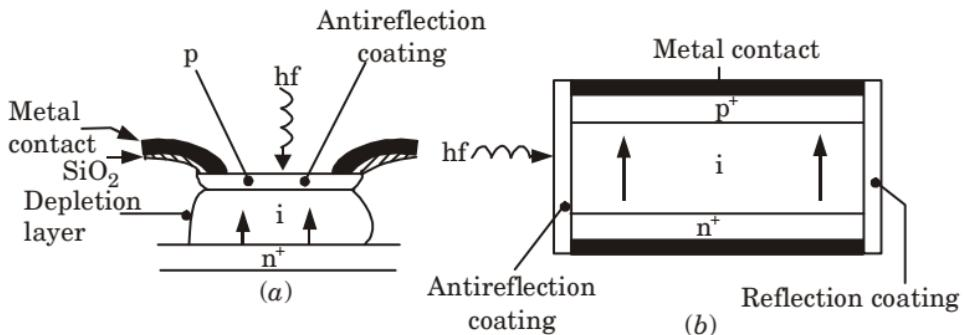

Fig. 4. (a) Structure of a front illuminated silicon *p-i-n* photodiode
3. Fig. 4 shows the structure of two types of silicon *p-i-n* photodiode for operation in the shorter wavelength band below 1.09 μm.